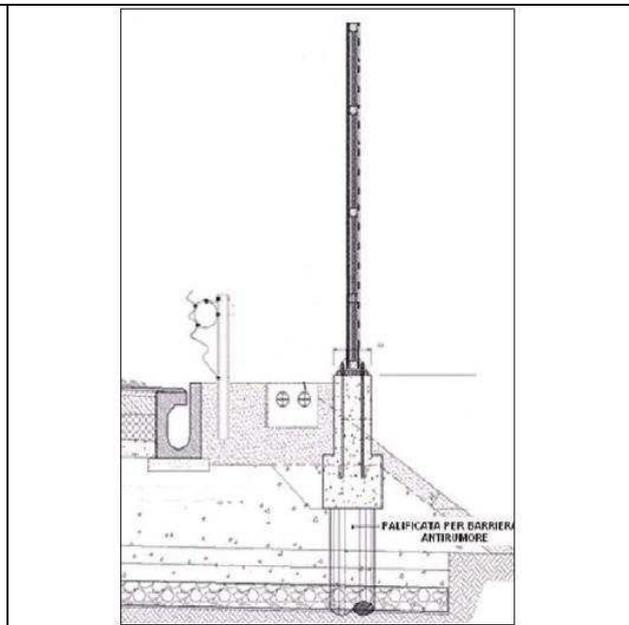

Fig.13
- Solution with steel guard rail (Fig.13)